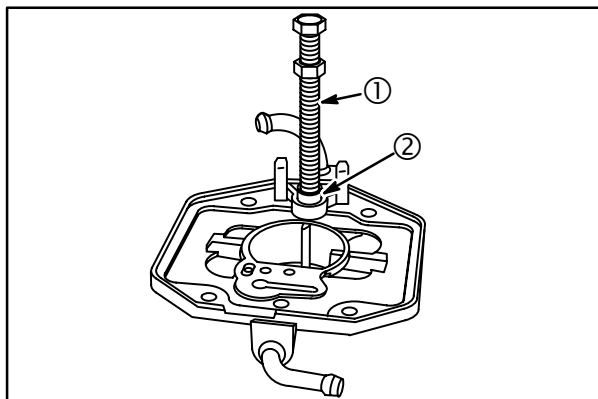

Fig. 104
1. Use self-threading screw **#93029** (1) from Fly-wheel Puller **#19165**. Thread screw into seat body (2) **3 - 4 turns**, Fig. 104.